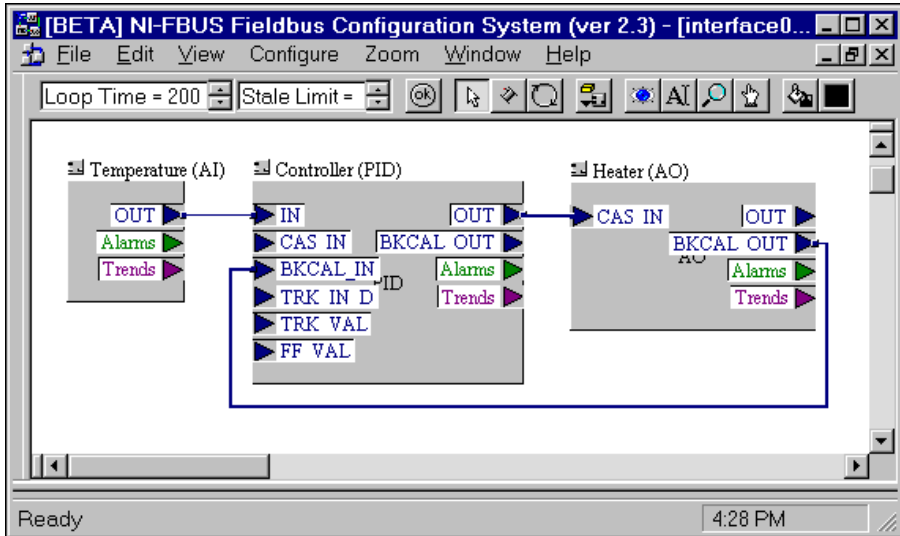

Figure 4-1. PID Function Block Application Dialog Box
In a Fieldbus network, a PID control loop is composed of three function blocks: an Analog Input (AI) block, a Proportional Integral Derivative (PID) block, and an Analog Output (AO) block. Figure 4-1 shows all three blocks and the interconnections between the blocks. The PID block's `IN` parameter is connected to the AI block's `OUT` parameter. The PID uses this linkage to determine the current value of the process variable it is controlling. The PID uses linkage from the PID's `OUT` parameter to the AO block `CAS_IN` parameter to adjust the AO block setpoint. To allow the cascade to be correctly initialized, a third back calculation linkage is created that allows the AO block to send its current setpoint back up to the PID block. These linkages must be established by using a PC-based Fieldbus configuration system, such as the NI-FBUS Configurator. For more information, refer to *Example 2: Temperature Control with the FP-3000* in Chapter 3, *Example Applications*.